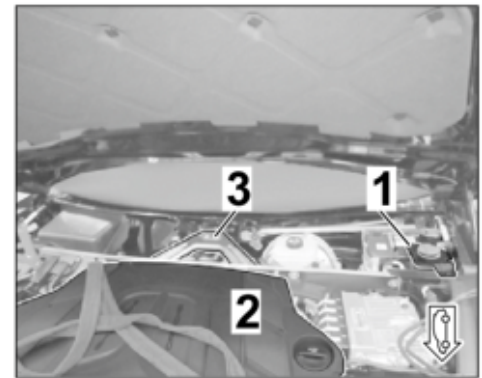

Figure 10
- 1.5.1 Remove the engine cover (design cover). ⇒ *Figure 10 -2- ⇒ Workshop Manual '108319 Removing and installing engine cover - T9I'*